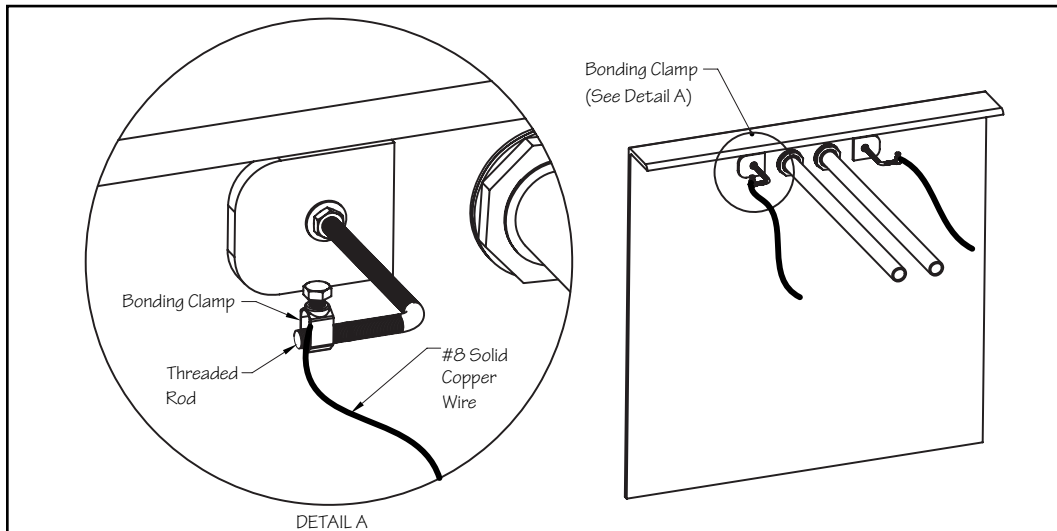

Fig. 4.29
**The threaded rods must be tied into the pools bonding grid.** If using rebar in the pools concrete collar, tie the threaded rods to the rebar using rebar wire. Secure a bonding clamp to each threaded rod. Attach a #8 solid copper wire to each bonding clamp. These wires **MUST** be attached to a bonding connection that's incorporated into the pools bonding grid. In most cases this connection will be at the pools existing equipment (heater, pump, etc.) that's presumably already tied into the bonding grid of the pool. Verify these connections are tight before pouring concrete (Fig 4.29).